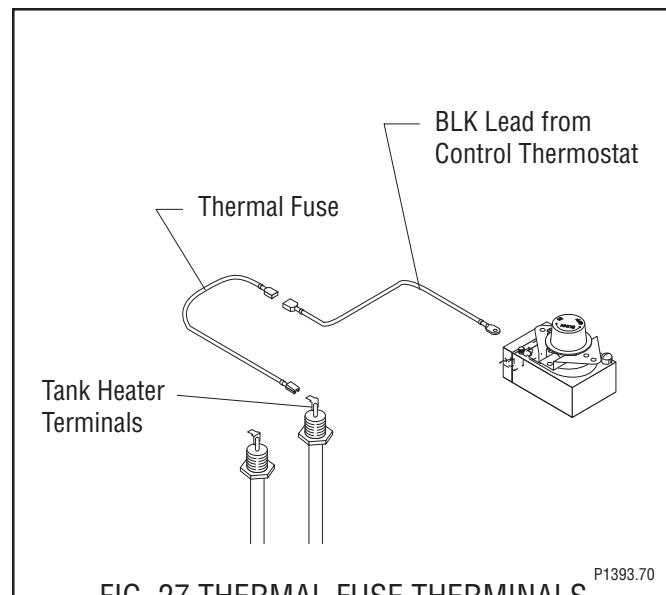

FIG. 27 THERMAL FUSE TERMINALS
4. Refer to Fig. 27 when reconnecting wires.